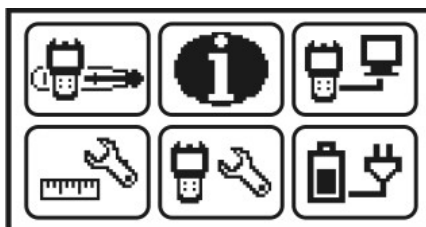

Figure 4.3.3
c) service menu (see figures 4.3.3), which you can access using the  icon in the main menu.